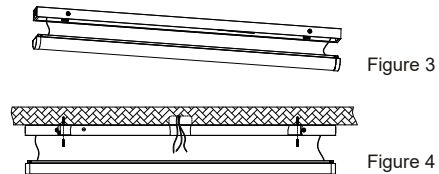

Figure 3
Step3. Press the screws on both sides of the lamp by hand to open the lamp (Figure 3)